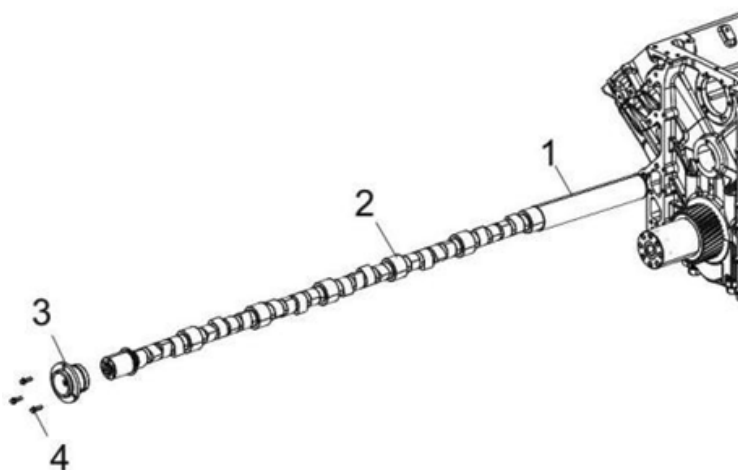

Figure 136.
5. Install the camshaft (Figure 136, Item 2), gradually rotate it as you insert it.
6. Apply a film of oil to the bearing bore. Fit the bearing (Figure 136, Item 3), taking care to position the lubrication groove at the top at 12 o'clock.
7. Apply a film of Loctite 242 to the fastened bolts (Figure 136, Item 4) and tighten to a torque of 29 ft/lb.